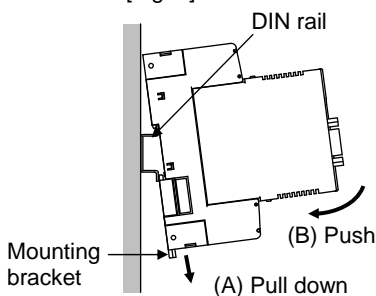

Fig. 1
1. Pull down the mounting bracket at the bottom of the module (A). Attach the hooks on the top of the module to the DIN rail and push the lower section into place on the DIN rail (B). [Fig. 1]